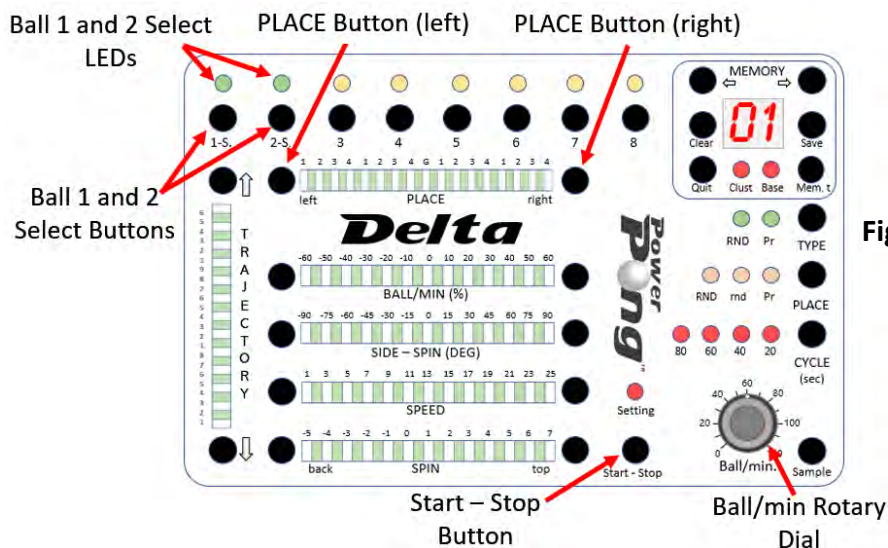

Figure 4-1
adjustment is recommended. Perform the following steps to check for proper adjustment. See Figures 4-1 and 4-2.
2. The Ball Select LED for Ball 1 will be flashing. Press the left PLACE button **twice** so that Ball 1 will be delivered to the left of the centerline. (Figure 4-1) The LED under the “3”, two positions left of the “G” on the PLACE LED Display must be lit.
3. Press the Ball Select Button for Ball 2. The Ball Select LED for Ball 2 will start flashing. Press the right PLACE button **four times** so that Ball 2 will be delivered to the right of the centerline. (Figure 4-1) The LED under the “2”, two positions right of the “G” on the PLACE LED Display must be lit.
4. Set the Ball/min rotary dial to 25. (Figure 4-1)